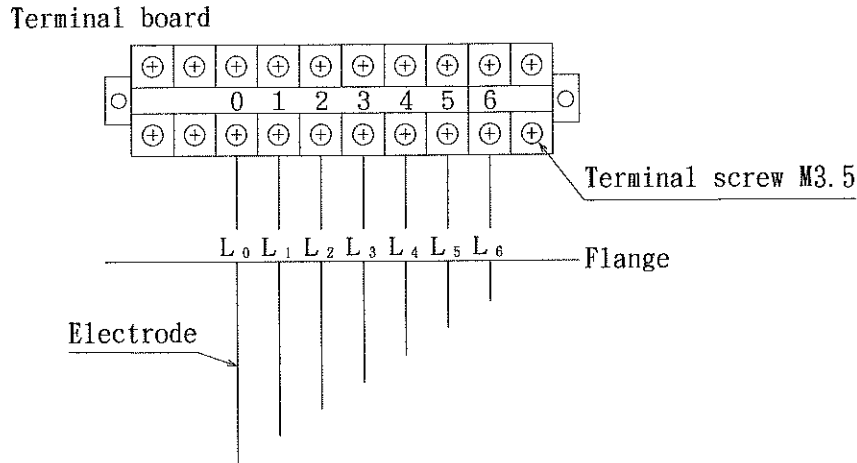

Fig. 15
- (1) Remove the terminal box cover.
- (2) Bring the cable into the terminal box.
- (3) Connect the cable to the terminals as shown Fig. 15.
- (4) Make sure that there are no miswiring.
- (5) Reinstall the terminal box cover in accordance with protection category IP45 (FE2 series) or IP43(FE7, FE8 series).
- (6) The cable inlet must be protected the sensor from rain splashing water and so on.